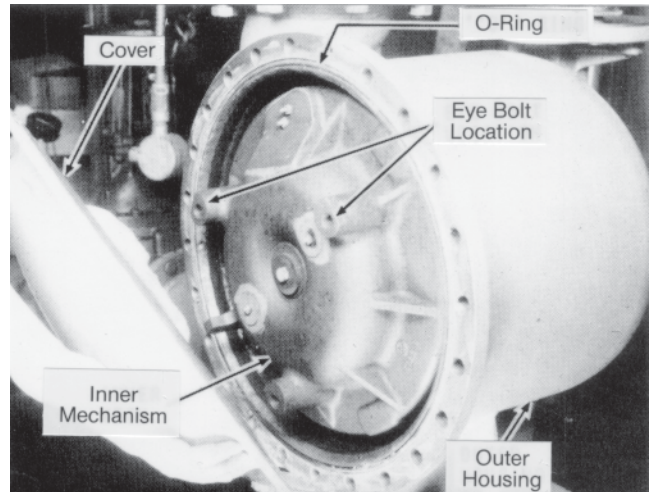

Figure 14 –Removing Outer Housing Cover
1. Remove the nuts and bolts that secure the outer housing cover to the outer housing and lift off, Figure 14.
4. Install 2-5/8" x 11 N.C. eyebolts in inner mechanism. Figure 14 identifies eye bolt locations.